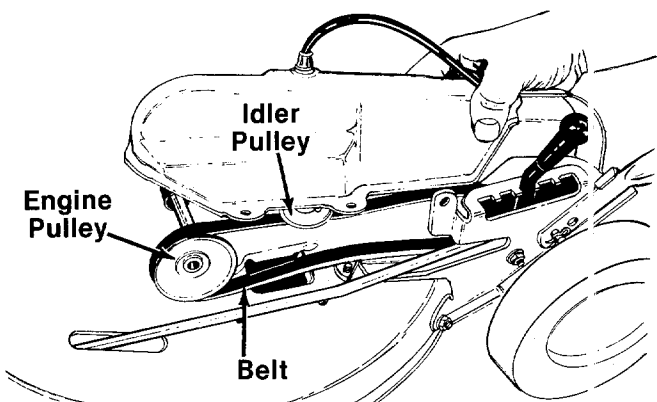

FIGURE 30.
4. Remove the belt from the pulley and the engine pulley. See figure 30.